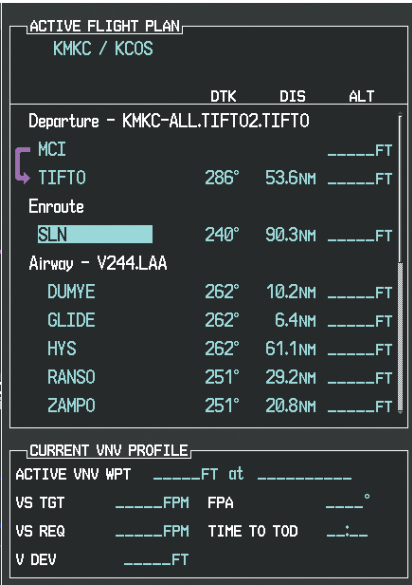

Figure 5-103 Begin Adding V4 to the Flight Plan
b) The desired entry point for V4 (TOP) must be entered. Turn the large **FMS** Knob to highlight the desired flight plan insertion point (SLN) as shown in Figure 5-103. When the V4 entry point (TOP) is inserted, it is placed immediately above the highlighted waypoint (SLN).